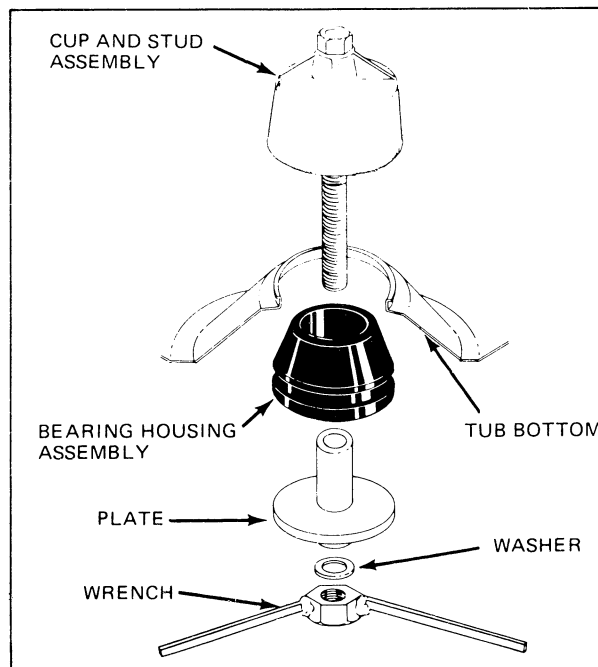

Figure 103 — Bearing and Housing Installation
4. When installing the assembly, install the tub bearing tool through the bearing-and-housing and tub bottom EXACTLY as illustrated in *Figure 103*. LIQUID SOAP MUST BE APPLIED ON THE TAPERED PART OF THE RUBBER HOUSING AS A LUBRICANT.